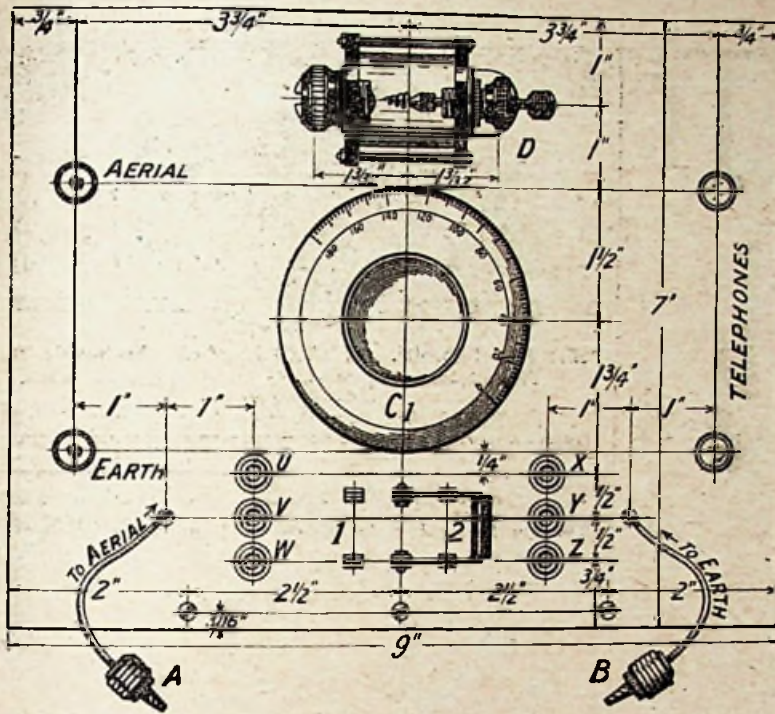

Fig. 2.—Drilling dimensions are shown above. Blueprint C1038A.
The reader is recommended to scribe his panel from the layout shown in Fig. 2; and in this process no difficulties should be encountered. As I have previously indicated, if components different from those specified are used, slight modifications may be necessary. Assuming the panel to be scribed, let us turn to the drilling. When doing this the panel should be placed on a piece of soft paper to prevent the front surface from becoming scratched.
"Glazite" wire was employed for making the necessary connections, and reference to the back-of-panel photographs and drawing will help readers to overcome any difficulties which may arise at this stage. A piece of flex wire, one end of which is soldered to the aerial terminal, passes through the left-hand hole, as indicated in Fig. 2, and terminates in a Clix plug (A).